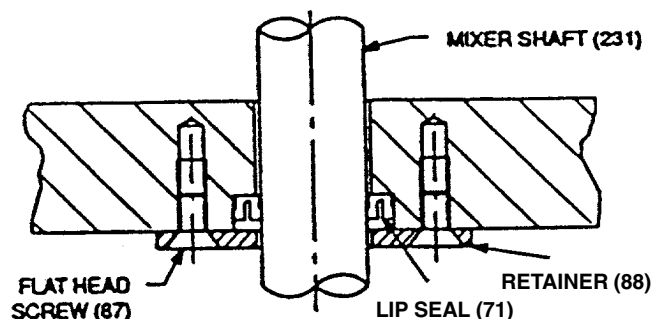

Fig 6
1. Remove the flat head screws (87) holding the retainer plate (88) in place. See Fig. 6.
2. Remove the retainer plate, and lip seal (71) from the housing.
4. To reinstall, place the new lip seal in flange (75), and place retainer plate over the lip seal.
5. Secure the retainer plate and lip seal in place with the flat head screws (87). Tighten securely.